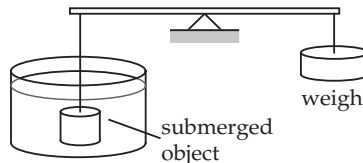

FIGURE P2.7.
7. A brass cylinder (Sp. Gr. = 8.5) has a diameter of  $25.4 \text{ mm}$  and a length of  $101.6 \text{ mm}$ . It is submerged in a liquid of unknown density, as indicated in Figure P2.7. While submerged, the weight of the cylinder is measured as  $3.56 \text{ N}$ . Determine the density of the liquid.